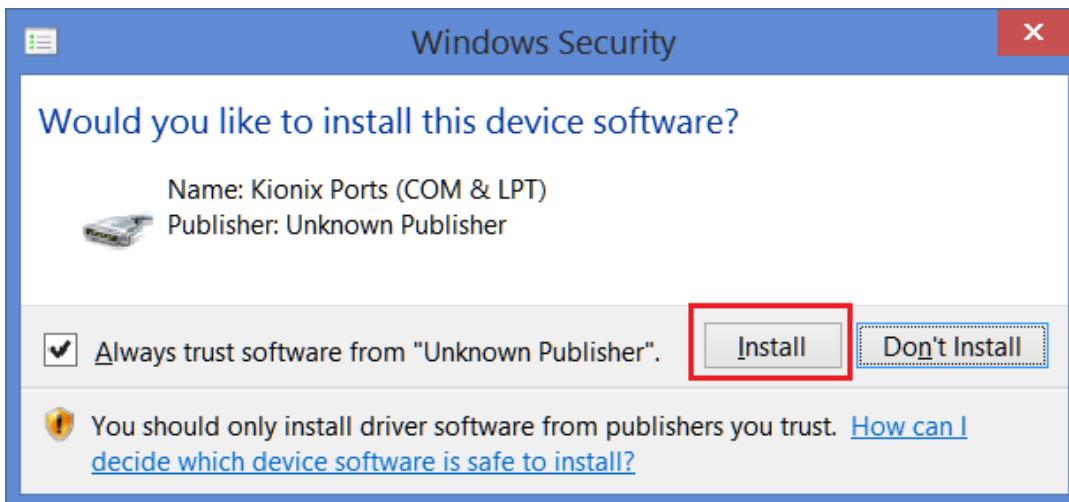

Figure 21: Update Driver Software – 7
9. Windows will prompt you to install the driver, please select “Install” (Figure 21).